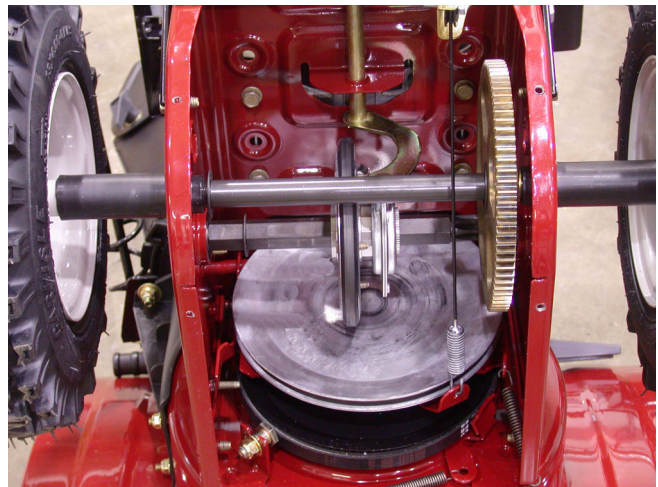

Figure 3.8
- 3.8. With the access panel removed, the variable speed disc drive will be exposed. See Figure 3.8.